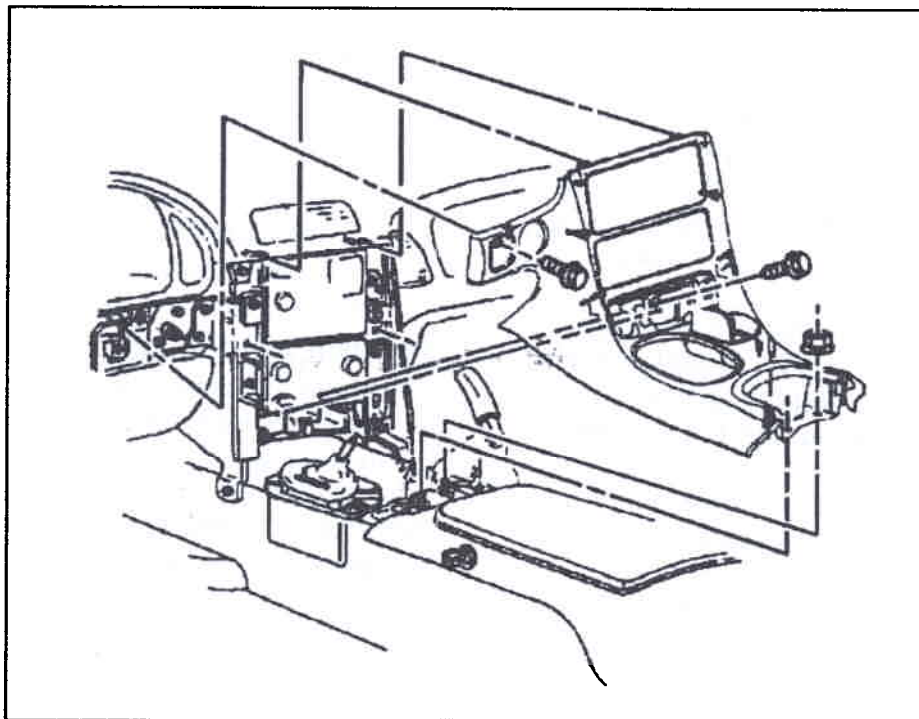

FIGURE 2
4. Place shifter into second gear. With the parking brake applied, grasp the instrument panel trim plate near the curve at the base and pull rearward to release the locking tabs. Lift the rear of the trim plate to clear the floor tunnel studs. **(Refer to Fig.2 on page 4)**